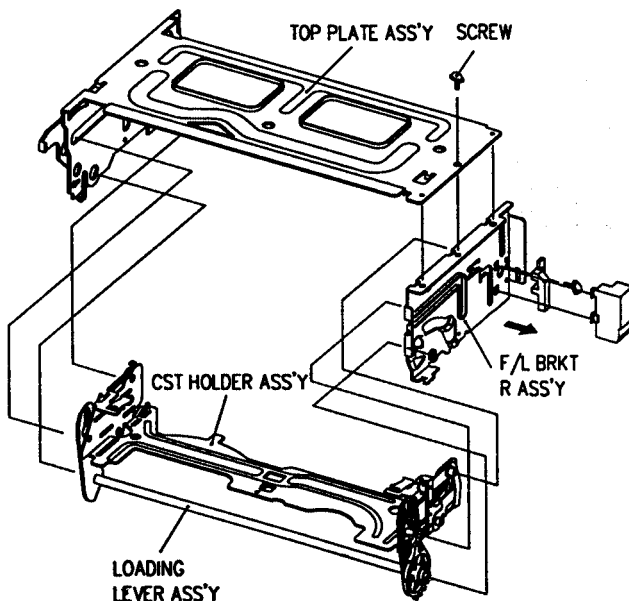

Fig. 13- front loading mechanism disassembly
Front Loading Mechanism disassembly (Fig. 13~17)
3. Remove the cassette holder assembly (Fig. 13)
4. Remove the prism cap and remove one (1) screw hold-